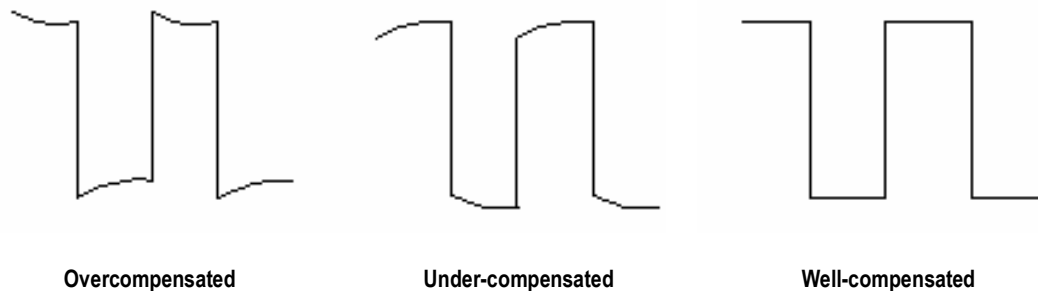

Figure 7-2. Different Status of Probe Compensation
- ii. The probe compensation goes in 3 different status (as *Figure 7-2* shows),